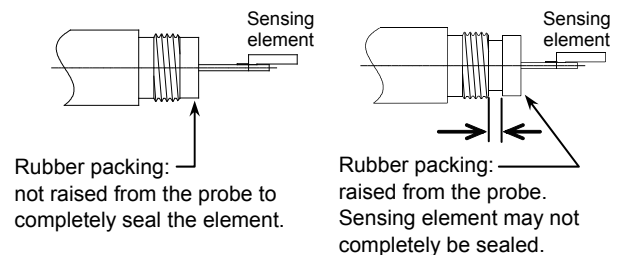

Figure 22. Rubber packing position
- 2) Before attaching the new filter, check that the rubber packing sealing the sensing element is not raised from the probe, as shown in Fig. 22.